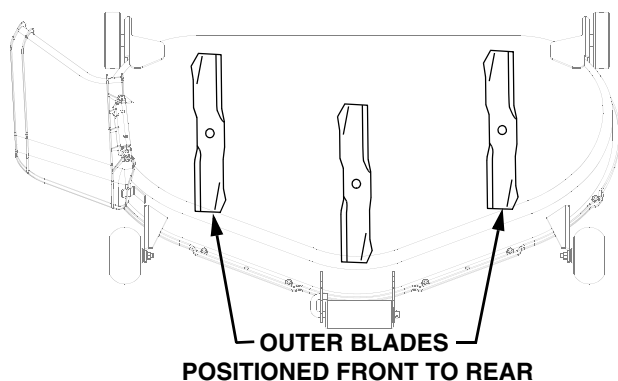

Figure 31
2. Position the mower blades so the ends of each outer blade point toward the front and the rear of the tractor (See Figure 31).